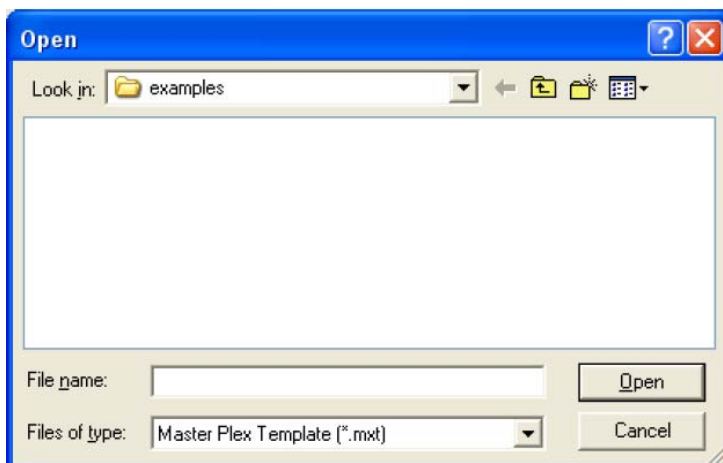

Figure 4.21 Open dialog box
- ⇒ The Open dialog box appears (Figure 4.21).